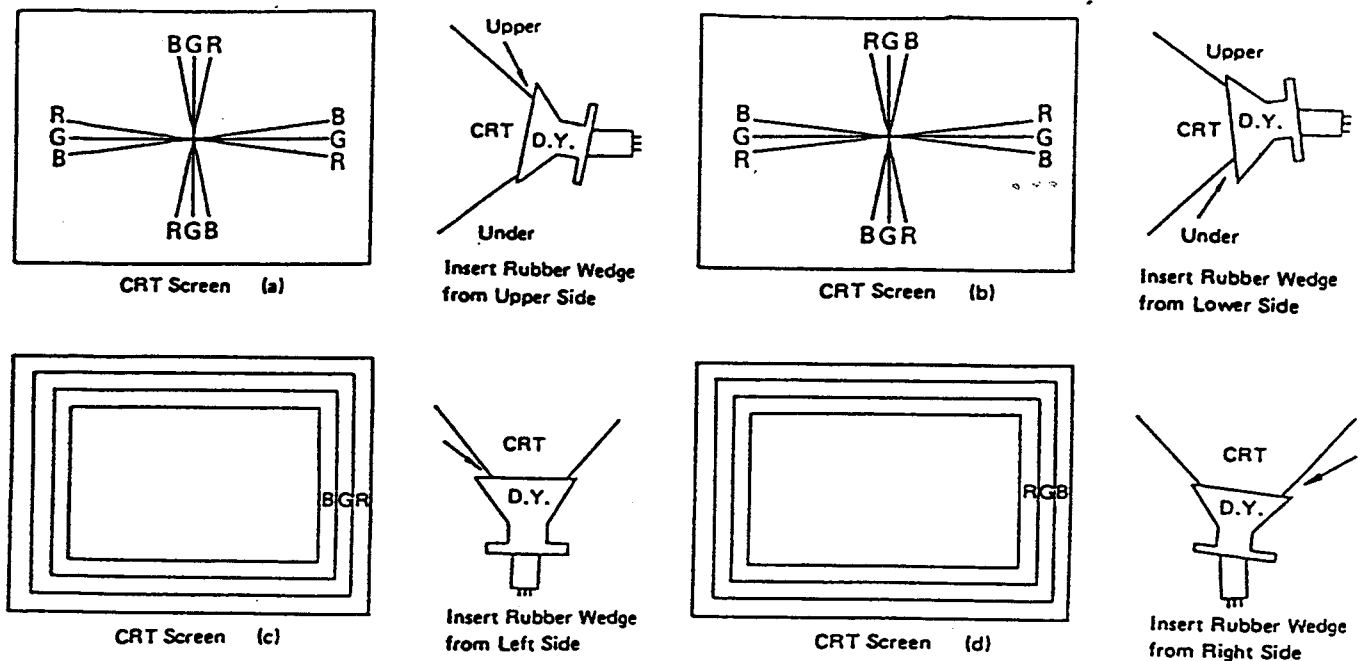

Fig. 15
3. Insert the temporary wedge and fix the deflection yoke so as to obtain the best circumference convergence. (See Fig. 15)
- 1) Tilting the angle of the yoke up and down adjusts the crossover of both vertical and horizontal red and blue lines. See Figs. 15(a) and 15(b).
- 2) Tilting the angle of the yoke sideways adjusts the parallel convergence of both horizontal and vertical lines at the edges of the screen. See Figs. 15(c) and 15(d).